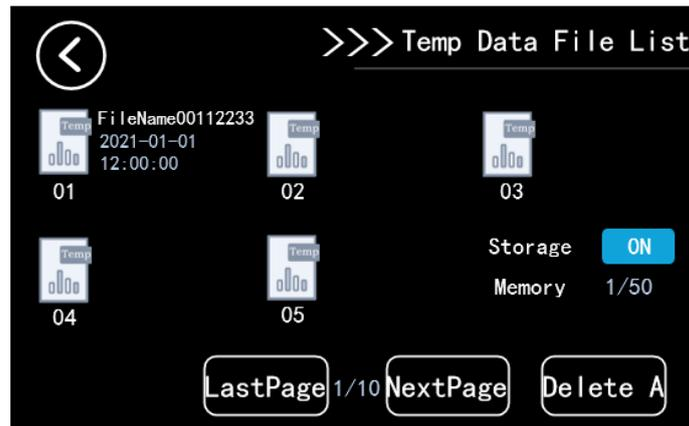

Fig 4.13 Temp Control List Interface
**Temperature control file list:** file directory. A total of 50 data files can be saved. The name, data, time of each file are displayed in the temperature control file list. If the file is empty, nothing is displayed. See Figure 4.13.